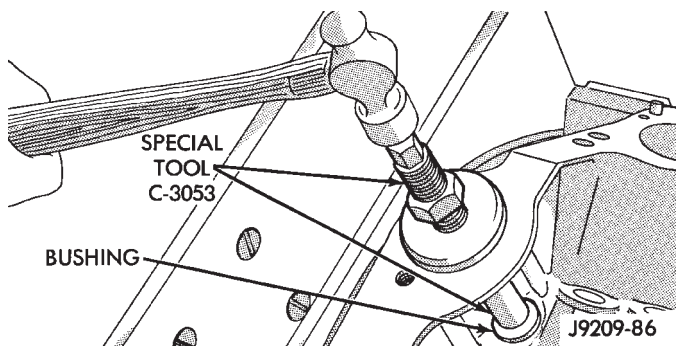

Fig. 15 Distributor Driveshaft Bushing Installation
(1) Slide new bushing over burnishing end of Distributor Drive Shaft Bushing Driver/Burnisher Tool C-3053. Insert the tool and bushing into the bore.
(2) Drive bushing and tool into position, using a hammer (Fig. 15).